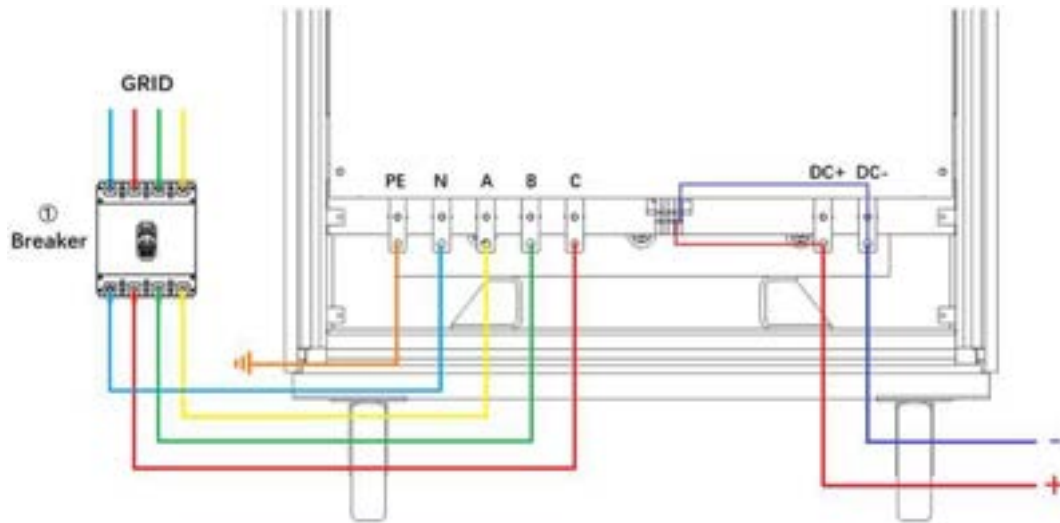

Figure 3-1 Equipment and the circuit breaker
After completing the product installation, close the circuit breaker on the distribution side (Figure 3-1①).